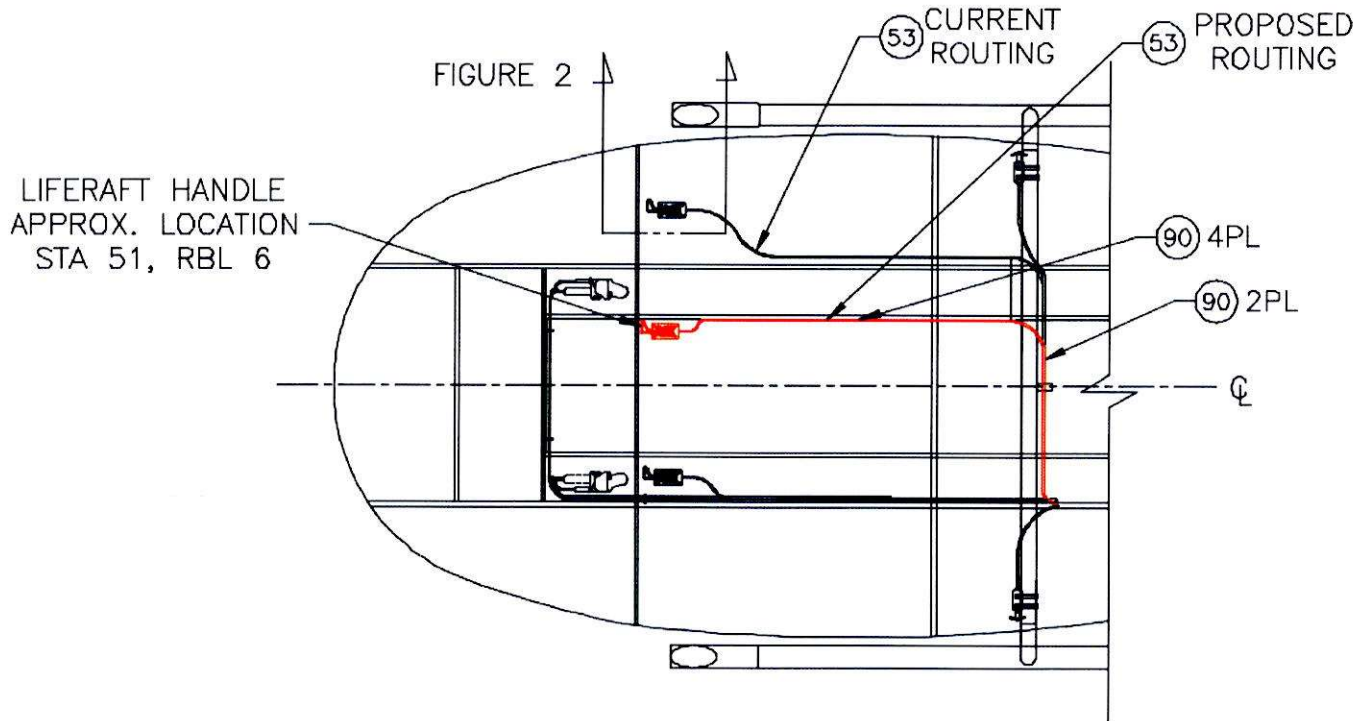
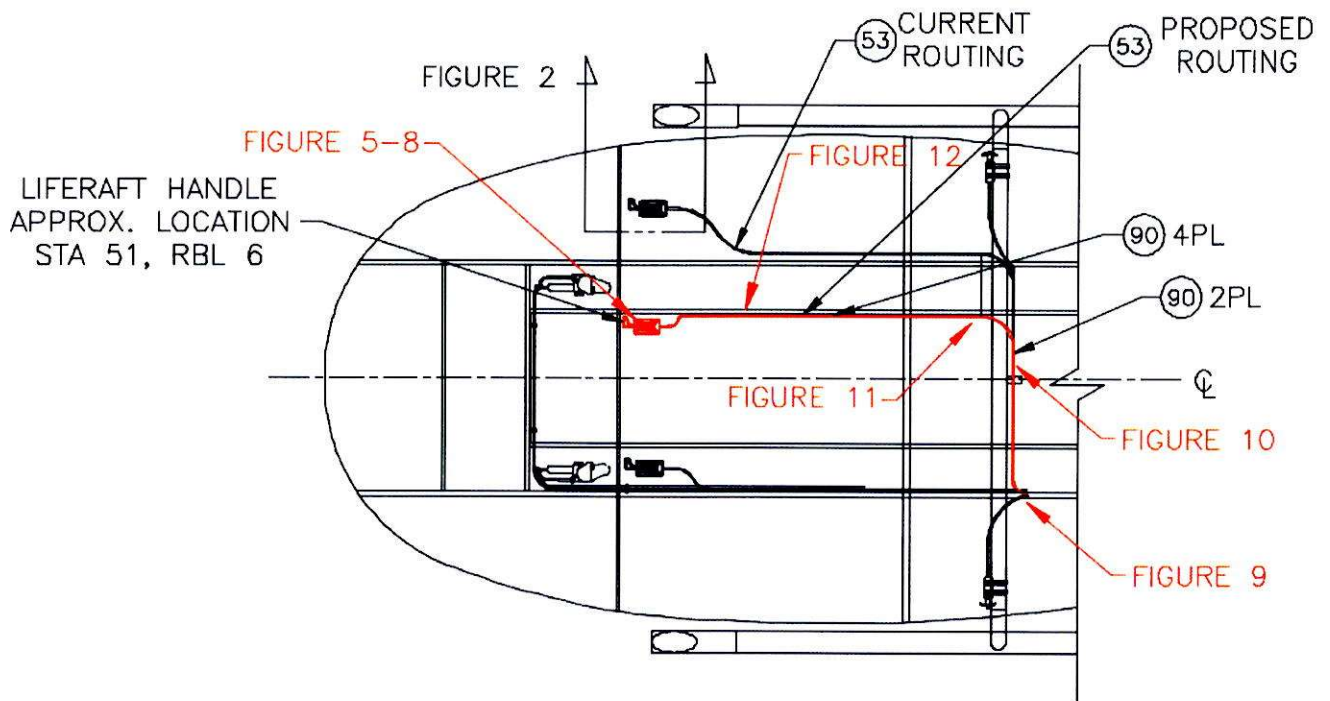

FIGURE 1: NEW HANDLE LOCATION W/ CABLE ROUTING
FIGURE 4: NEW CABLE ROUTING LOCATION W/ NEW HANDLE LOCATION
2. Align the the Single Lever Assy (F/N 24) in the location specified in Figure 1, located approximately at STA 51.00, RBL 6.00.
12. Route the pull cable along the helicopter longeron line using qty. 4 Tywraps (F/N 90). Reference Figure 1 and Figures 4 through 13.
(REFERENCE FIGURE 4)